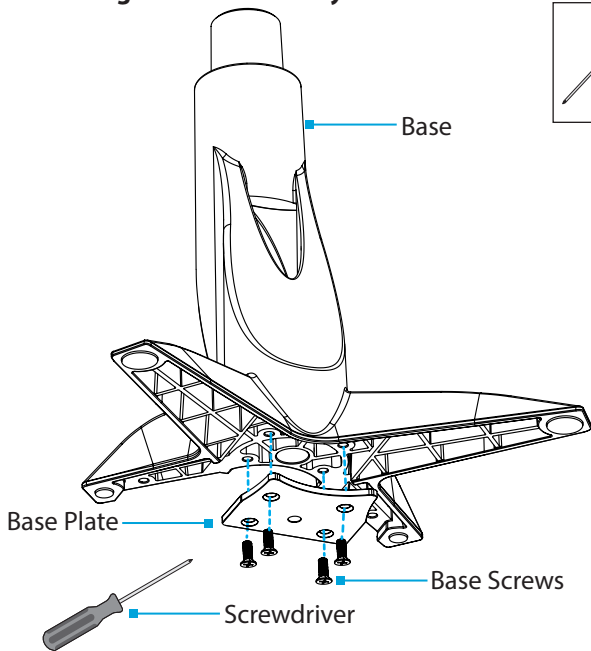

Figure 1
1. Align the **Base Plate** with the **Assembly Holes**, located on the underside of the **Base**. (Figure 1)
2. Insert the **Base Screws** (x 4) through the **Base Plate** and into the **Base** and tighten, using a **Phillips Head Screwdriver**. (Figure 1)